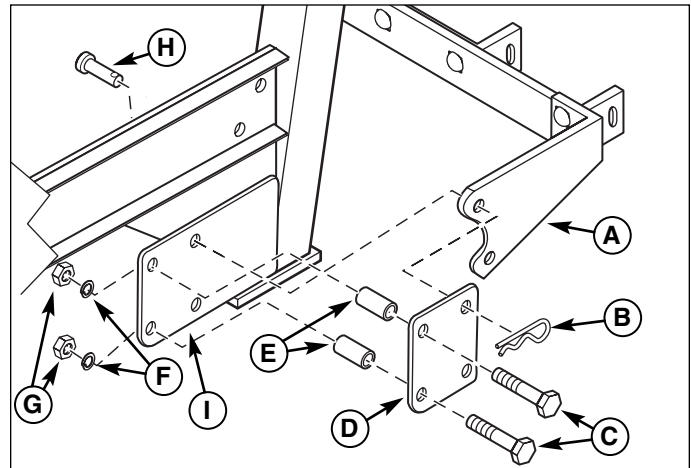

Figure 4. Hitch w/ROPS Installation
1. Slide capscrews (C, Figure 4) through the inner support (D), spacers (E) and ROPS side plate (I). Secure with lockwashers (F) and nuts (G).
2. Install hitches and plate (A, Figure 4) by sliding clevis pins (H) through ROPS side plate (I), hitch & plate (A) and inner support (D). Secure with hair pin (B).